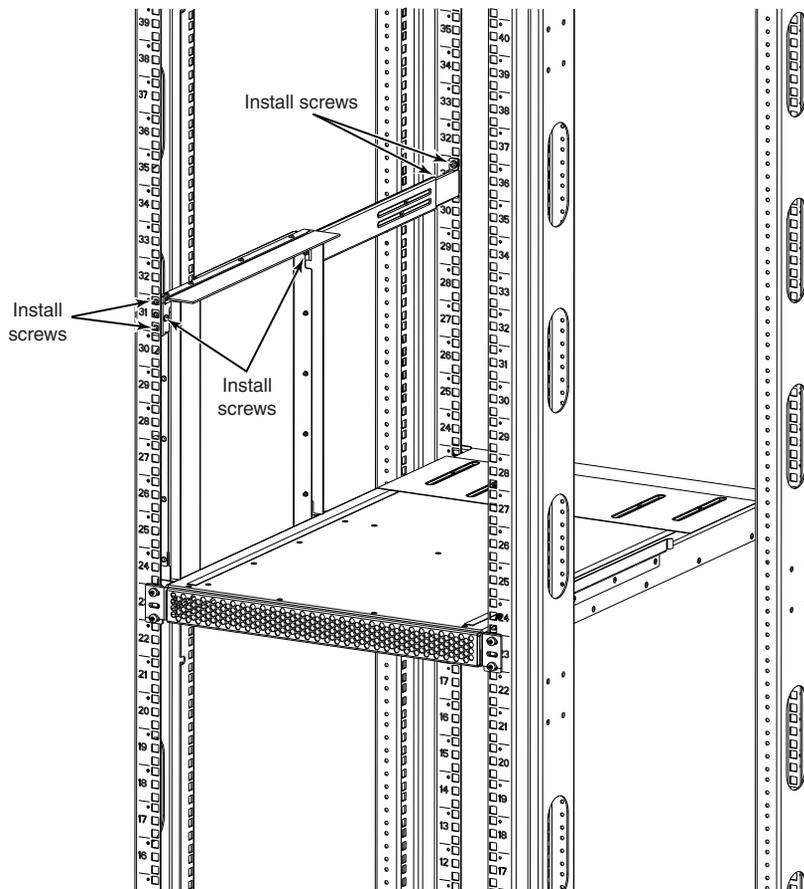

Figure 42 Securing top rail in cabinet.
5. Install the top-rail assembly (A in Figure 38 on page 195) to the air-duct assembly. Refer to Figure 42 on page 200.